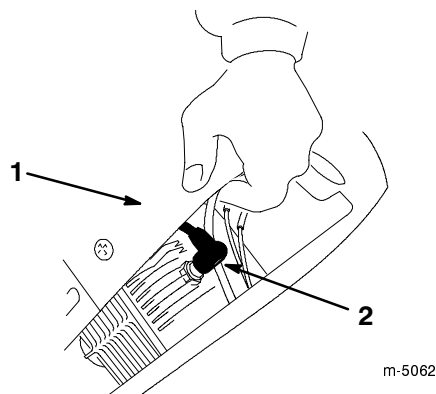

Figure 19
3. Lift up the shroud and disconnect the wire from the spark plug (Fig. 19).
5. Remove the spark plug (Fig. 19).